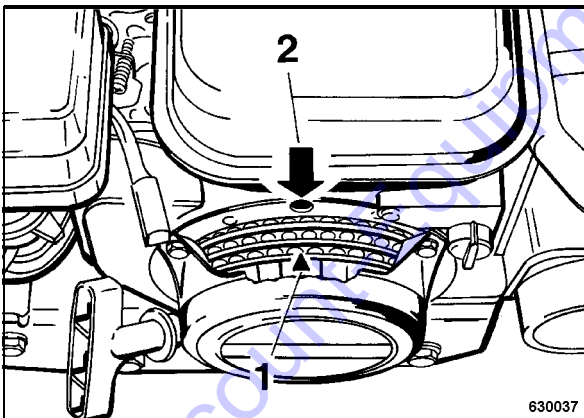

Fig. 44
- For this purpose align triangle mark 1 (Fig. 44) on starter disc to the top bore (2).